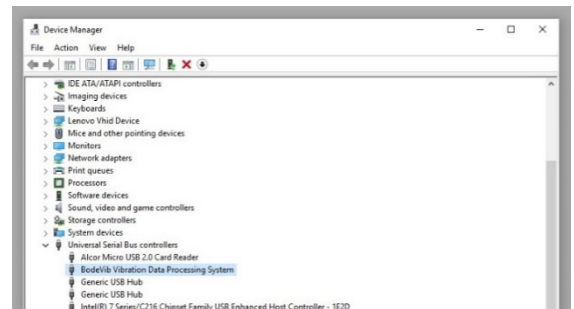
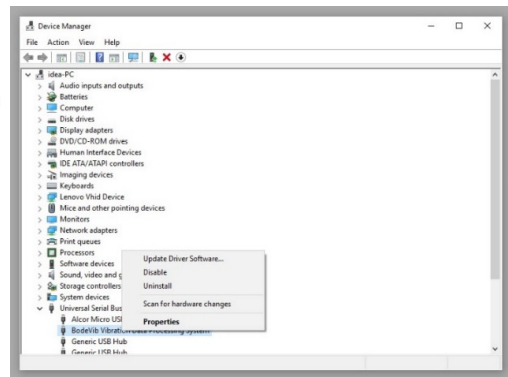

Fig 3. Conflicting driver **BodeVib Vibration Data Processing System**.
Fig 4. Selecting **Update Driver Software...**
7. Right click on the conflicting driver, in this example **BodeVib Vibration Data Processing System**, Fig 3, and in the pop-up menu, click on **Update Driver Software...** as shown in Fig 4.